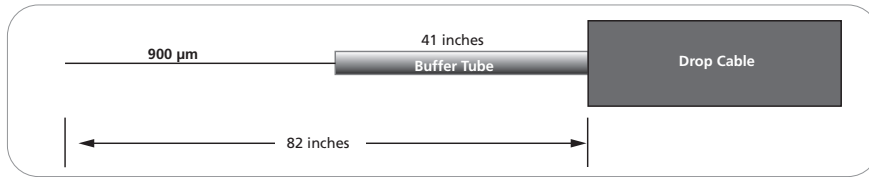

Figure 4
-  **Note:** If a service loop is desired in the base, mark the cable for an 82" (208.3 cm) opening and the buffer tube for a 41" (104.1 cm) opening. (Figure 4).